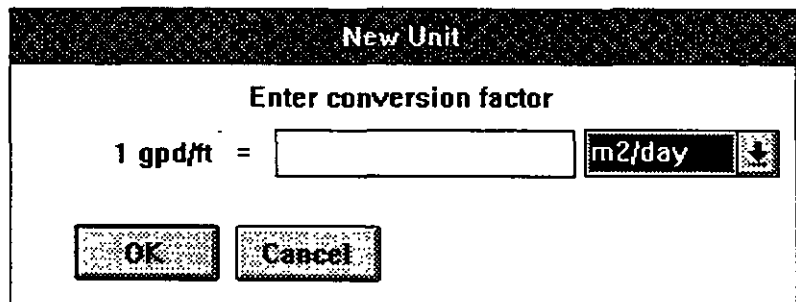

Figure 4-4
7. A new dialogue box will open prompting you to enter a conversion factor which will relate this new unit with any other unit of this type. On the right side the list of all currently selected units for this type will be shown. For example, if you know the conversion between `gpd/ft` and `m2/day`, you may select `m2/day` using the upper and lower arrow buttons on the screen display. The screen will look as shown in Figure 4-4.